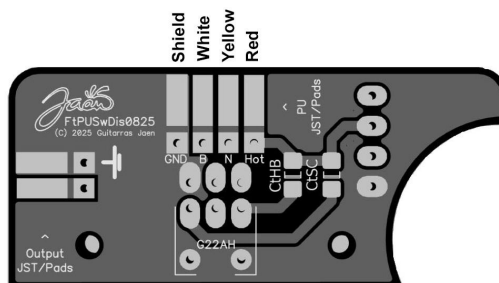

Figure 13 - Switch PCB
- The pickup will be connected to the four pads on the top side of the Switch board, following the colors for the wires indicated in Figure 13:
5. The output cable, which must be shielded, will be connected to the two pads on the left side of the Switch board (Figure 13). It's my error that there is no printed information of which terminal is ground, but I have painted a symbol on the board to indicate it, that also appears on Figure 13.